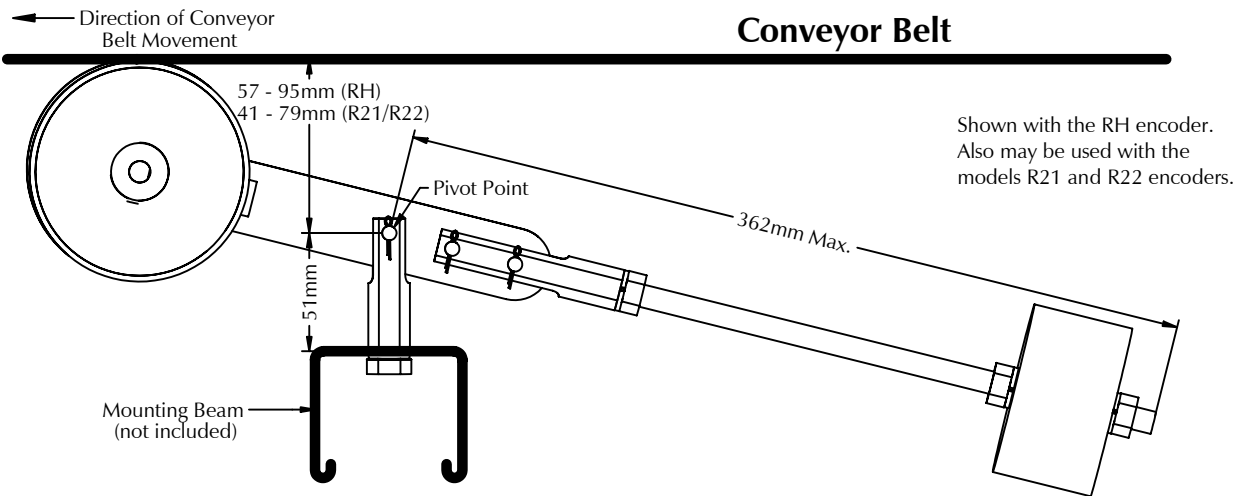

Figure 1: MB-UB1M (units in millimeters)
The MB-UB1M Counter Weight assembly facilitates mounting the model RH, R21 and R22 wheeled encoders under the conveyor belt (or roller) as shown in figure 1. The Y-3M yoke provides a pivot point so the encoder wheels maintain contact and alignment with the belt, compensating for up/down and some sideways movement of the belt. Nylon washers are included to accommodate the thinner handle on the R21 and R22 wheeled encoders.
4. Bolt the Y-3M yoke to a mounting beam (not supplied) using the M10-1.5 bolt and lock washer. The Y-3M should be perpendicular to the conveyor belt with the pivot point below the conveyor belt as shown in figure 1, and positioned so the encoder is aligned with the belt. **Caution:** If the encoder is not aligned with the belt, premature wheel wear will result.